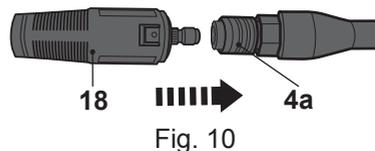

Fig. 10
- > Align the variable spray nozzle (18) with the nozzle connection port (4a) of the pressure lance (4) and push it until it snaps in place (Fig. 10).